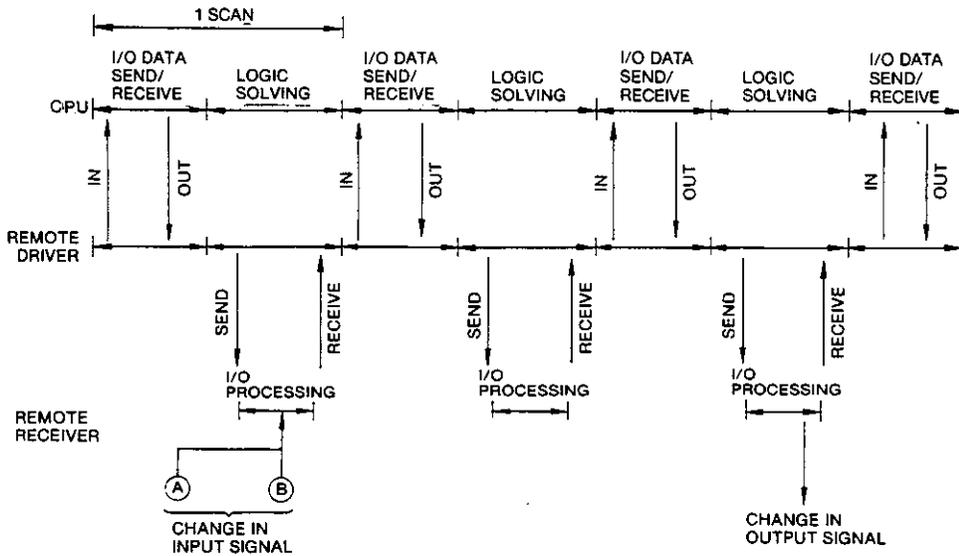

Fig. 4.4 I/O Timing of Remote I/O Channel
This is the duration until a change in input signal is delivered to remote I/O receiver through the input module. As shown in Fig. 4.4, if the change in input signal occurs near (A) a delay of 1 scan maximum occurs but it becomes minimum if the change occurs near (B).